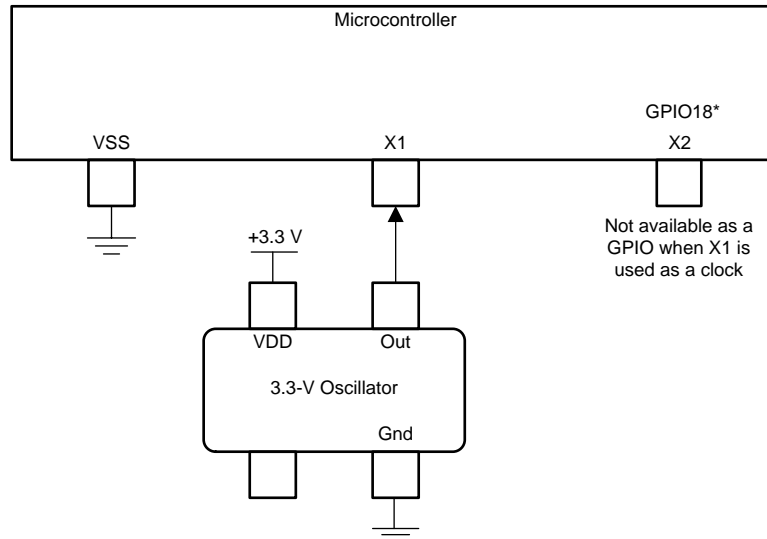

Figure 5-12. Single-ended 3.3-V External Clock
- A single-ended 3.3-V external clock. The clock signal should be connected to X1, as shown in Figure 5-12, with the XTALCR.SE bit set to 1.